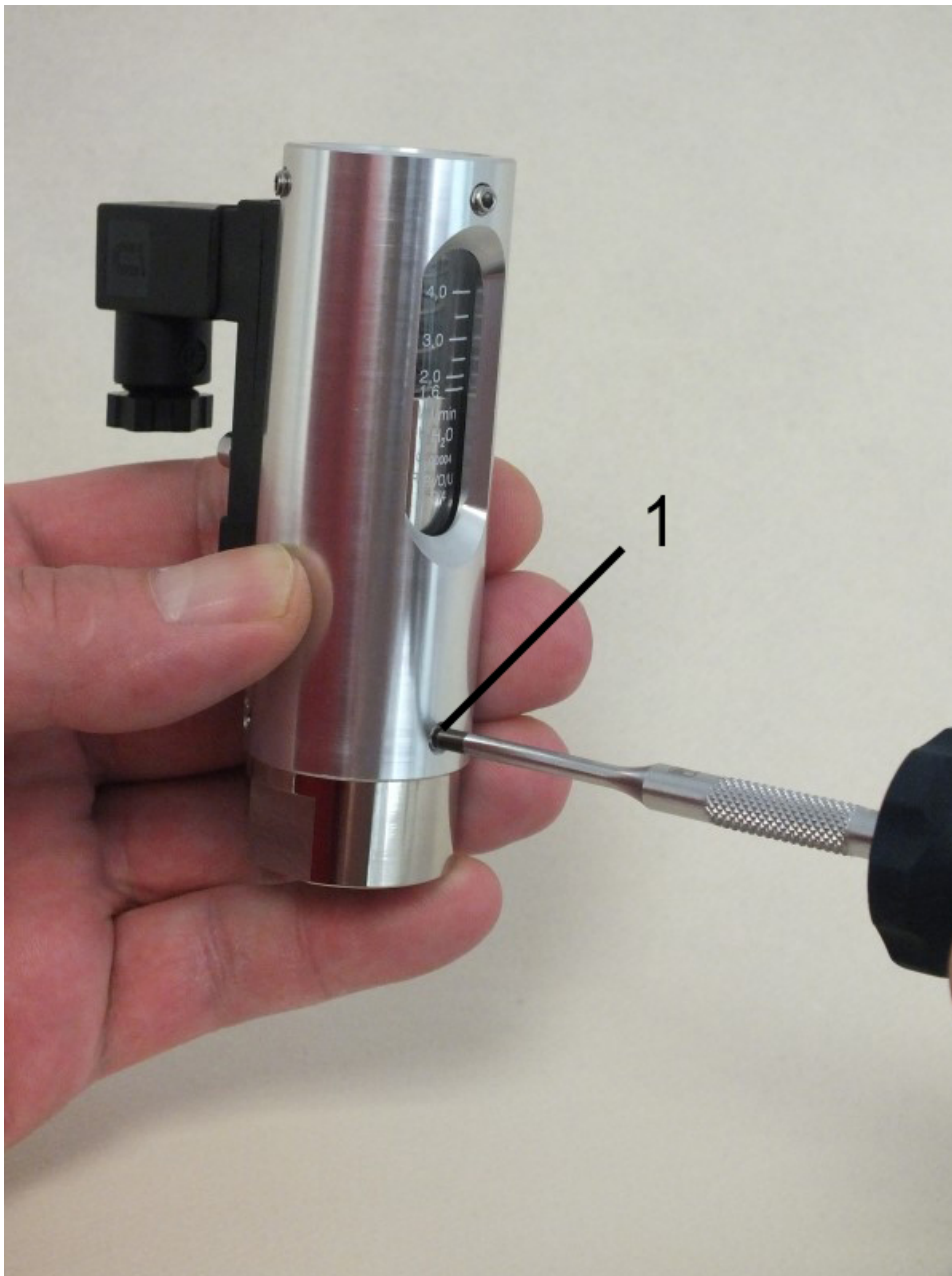

Fig. 36: Loosen screws
- 3.** Secure the device with one hand to ensure the sight glass does not slip out, then loosen the lower 3 hex head screws (*Fig. 36/1*).